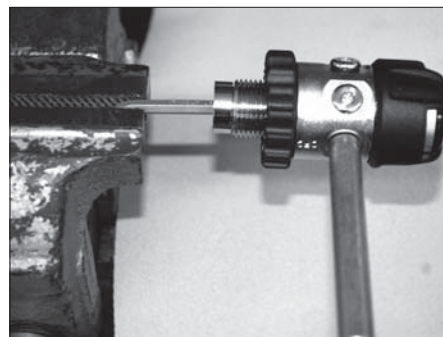

FIG. 3
**NOTE** TO MAKE DISASSEMBLY EASIER, MARES RECOMMENDS PLACING THE 5-mm ALLEN WRENCH (B-4) IN A BENCH VISE AS SHOWN IN THE PHOTO. (FIG. 3)